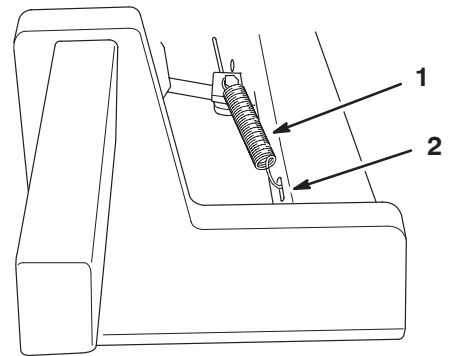

Figure 3
6. Remove the cotter pins from the clevis pins holding the brake struts and yokes together, and discard the cotter pins. Keeping the clevis pin in place, install the short end of the spring into the hole in the clevis pin to retain the parts together. Connect the other end of the springs to the slotted holes in the lift arms (Fig. 3).